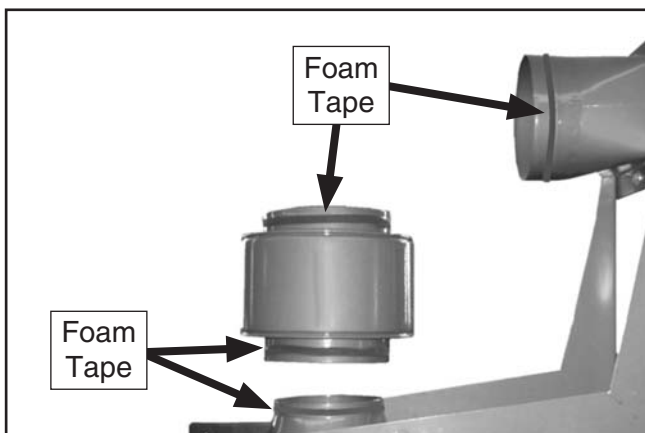

Figure 23. Foam tape applied to upper components (Model G0441).
- a. Apply the 3 x 15mm foam tape to the lips of the outlet port, canister adapter, and both ends of the muffler, as shown in **Figure 23**.